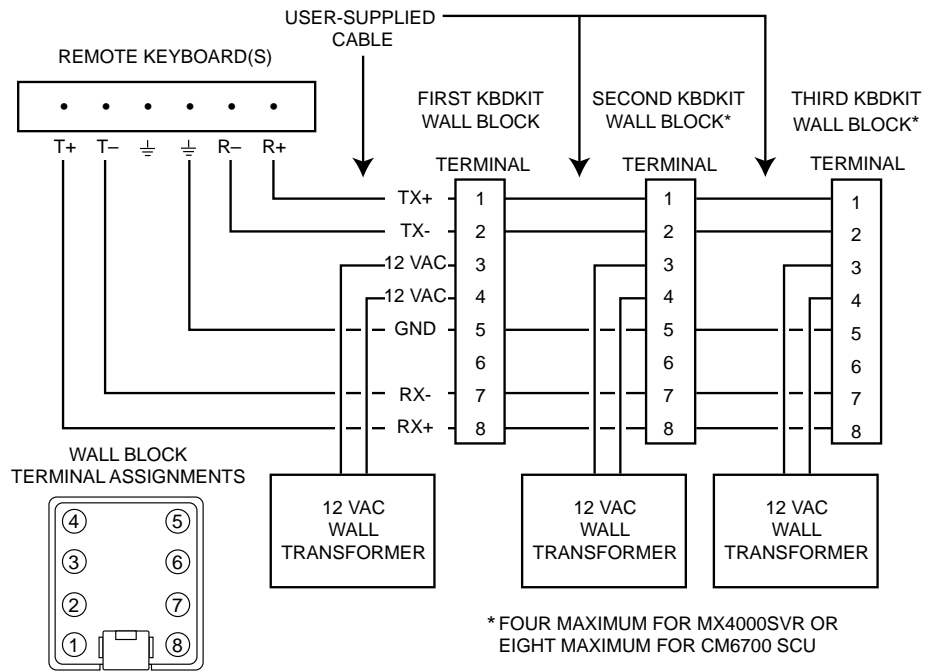

Figure 2. Wiring Diagram for CM6700 or MX4000SVR Remote Keyboard
4. Remove the covers from the wall blocks. Wire the connections between the wall blocks and the CM6700 or MX4000SVR according to Figure 2. Connect the transformers to terminals 3 and 4 of each wall block. Polarity is unimportant.